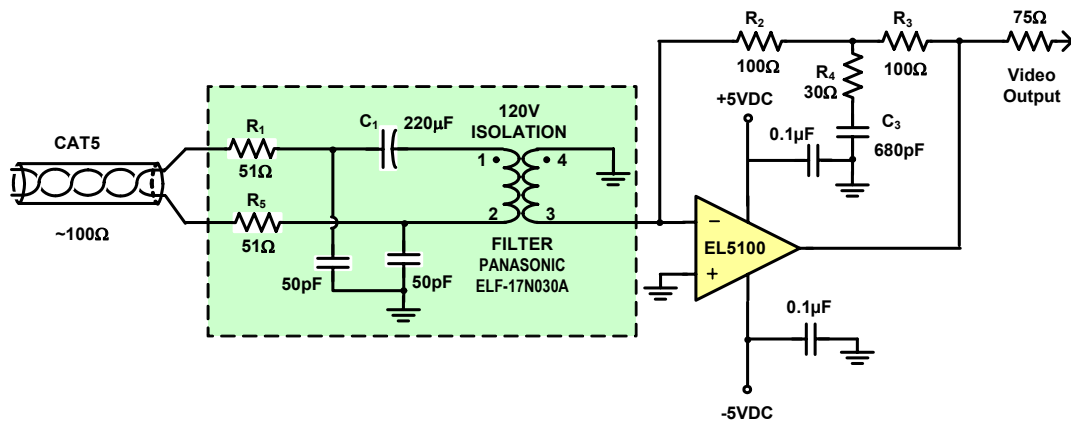

FIGURE 12. NTSC/PAL VIDEO ISO TRANSFORMER CAT 5 TO COAX
**Circuit Details (Figure 12)** - The Cat 5 cable 51Ω series input resistors functions as the cable termination and gain resistor to the amp summing node and the two 100Ω in series or 200Ω are the feedback resistors and sets the gain at two. The reason for two series resistors is to establish a node for the compensation network. The 100Ω resistors isolate the feedback compensation network from being connected directly to the '-' input or the output of the EL5100.
The peaking circuit needs to be in the feedback loop but also must be isolated from the op amp's output and input (Figure 12). Using two 100Ω series resistors, R2 and R3, effectively isolates the compensation network from the '-' input and output of the EL5100 while maintaining the gain of 2. R2 and R3 are 100Ω and functions as the feedback resistor to the amp summing node, while R1 and R5 are 51Ω and are the input cable termination and the summing node gain resistor for the op amp.
**Design 1 (Figure 12)** - This design supports a Cat 5 cable input to single-end coax output. The Cat 5 cable input design uses two input termination  $51\Omega$  resistors and one capacitor in series with the transformer input, as noted before, to prevent core saturation due to DC currents. The ISO Transformer output has one side of the secondary connected to ground and the other side to the amp summing node. The feedback is now two  $100\Omega$  series, which generates a gain of 2 and the  $75\Omega$  to the output cable gives a gain of 1 at the receive cable input.